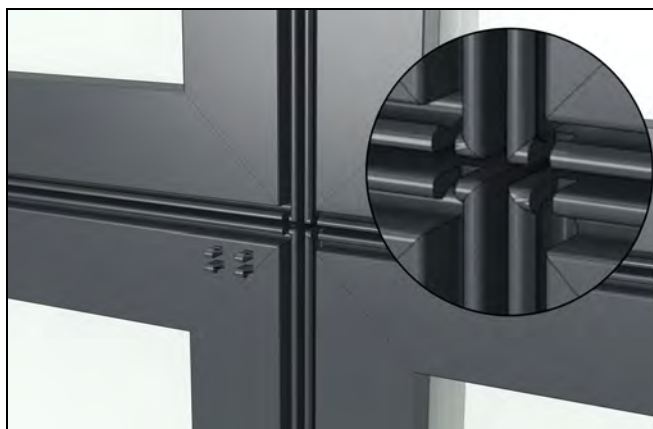

Figure 108
2. Place the individual units on a flat sturdy surface exterior side up. Use a hacksaw, rotary tool, or oscillating tool, to remove material from the corners of individual units to allow the mull cap to pass. Remove about 1/8" (3) of material from the accessory kerf leg that runs perpendicular to the direction of the mull. See Figure 108.